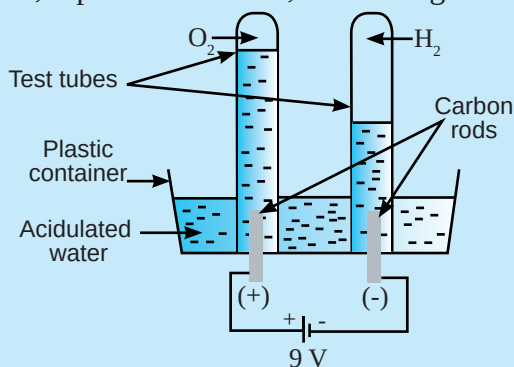

Figure 10.3
- Add acidulated water into the container and arrange the apparatus as shown in Figure 10.3.